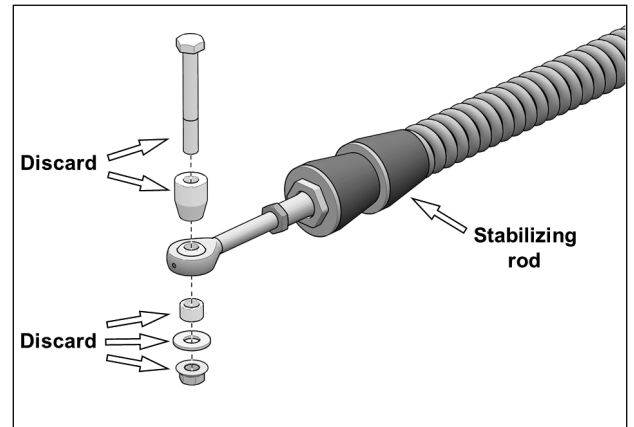

Fig. 3
4. Remove and discard bolts, washers, spacer bushings, and nuts from rear stabilizing rod ends as shown in Fig. 3.